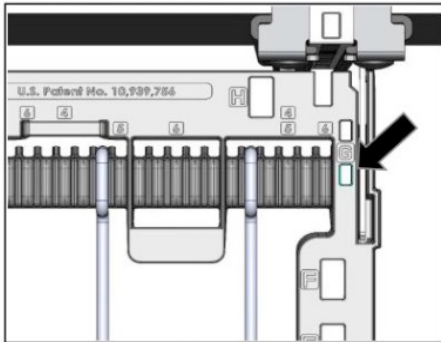

Figure 1
1. Identify the "G" opening on the back corners of the tray. Only one "G" opening will be used per side as shown (See Figure 1).